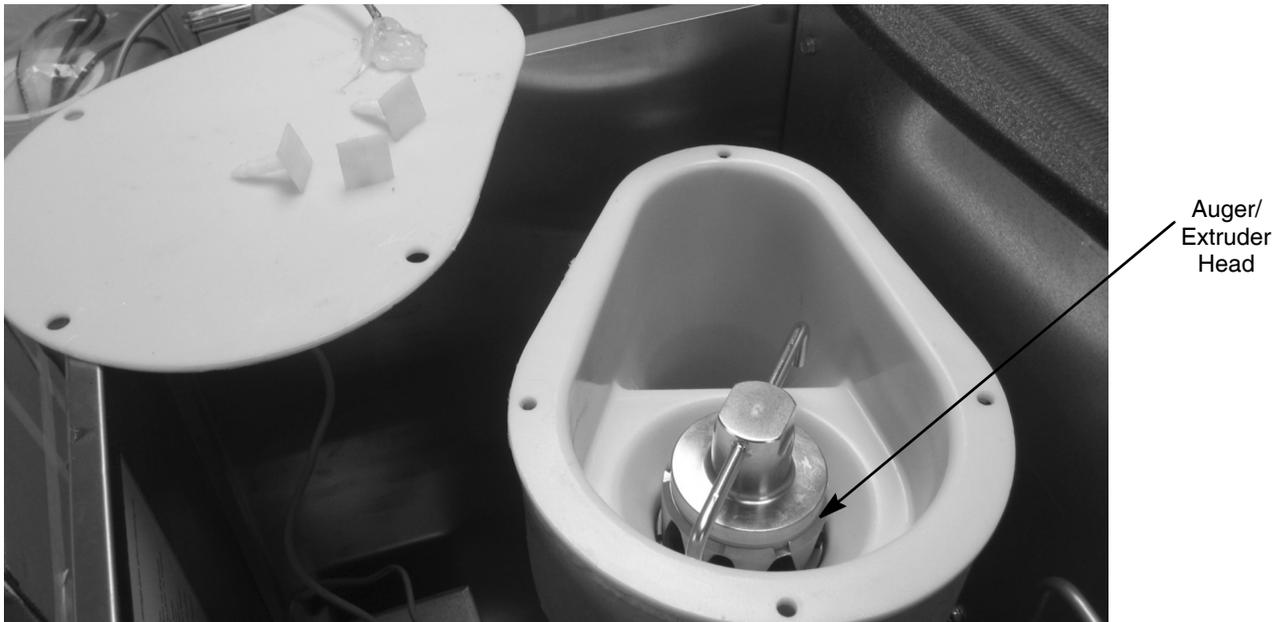

Figure 17.
1. Install the extruder head on top of the evaporator, as shown in Figure 17.